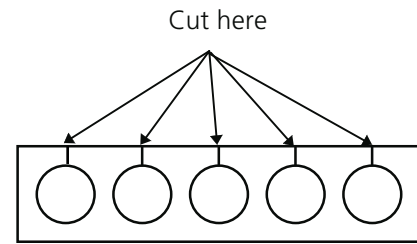

Figure 3-13
8. The spacers must be cut on one side with a pair of scissors prior to installation. Refer to Figure 3-13 for the correct areas to cut.